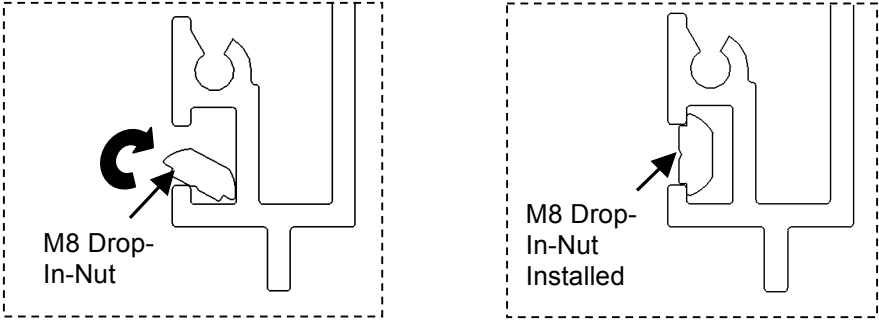

Fig.6
- 5. Insert M8 Drop-In-Nut in lower T-slots of the slide (Fig.6).